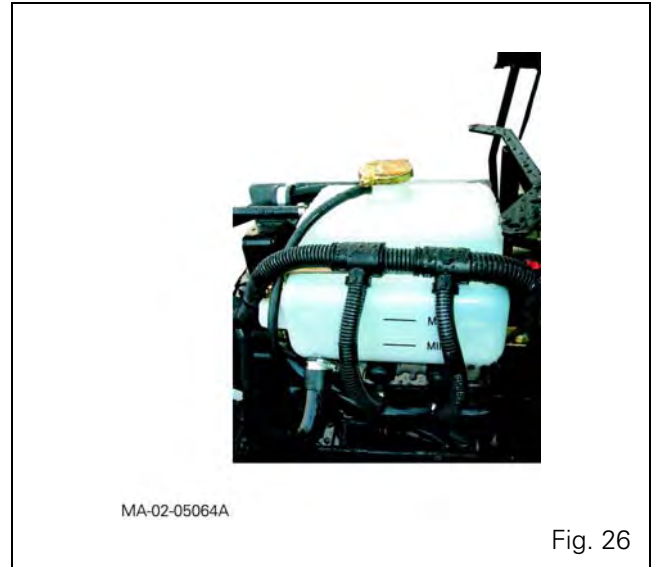

Fig. 26
- **Topping up** of coolant, to the maximum level marked on the expansion tank (Fig. 26).